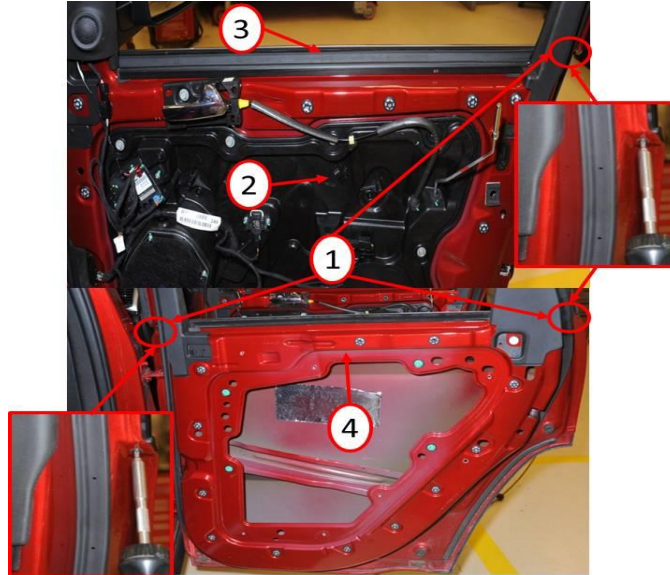

Fig. 1 Fastener Removal
2. Remove the outer belt molding retaining fasteners (1) (Fig. 1).